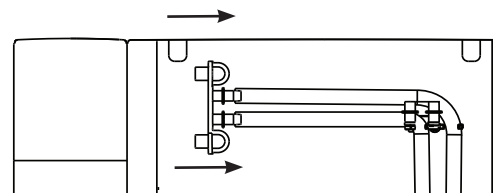

Figure 8
- 15. Replace drain tubes on back. See figure 8.